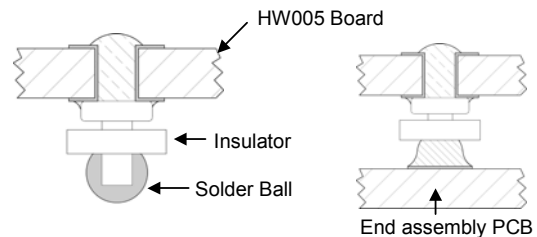

Figure 71. Column Pin Connector Before and After Reflow Soldering.
The surface mountable modules in the HW005 family use our newest SMT technology called "Column Pin" (CP) connectors. Fig 71 shows the new CP connector before and after reflow soldering onto the end-board assembly.